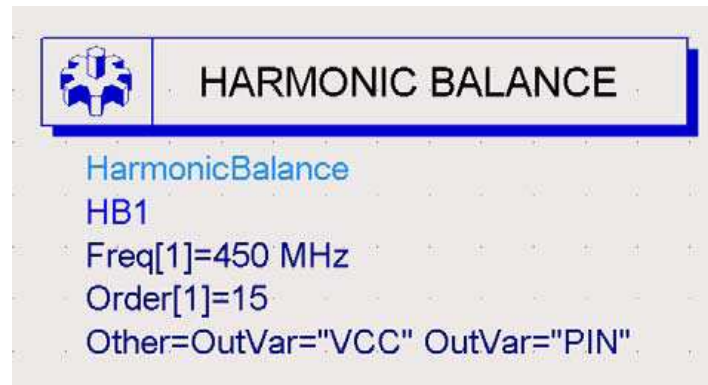

Figure 1. Example of the HB controller used for a very simple single tone (frequency) simulation.
Figure 1 illustrates a very basic HB simulation setup. The Harmonic Balance controller specifies several key simulation parameters. In the example below, one fundamental frequency,  $\text{Freq}[1]=450$  MHz, is specified as an input. The index [1] shows that only one fundamental frequency is being considered.  $\text{Order}[1]$  specifies the number of harmonic frequencies to be calculated (15) for the first (and only) frequency in this case. One of the